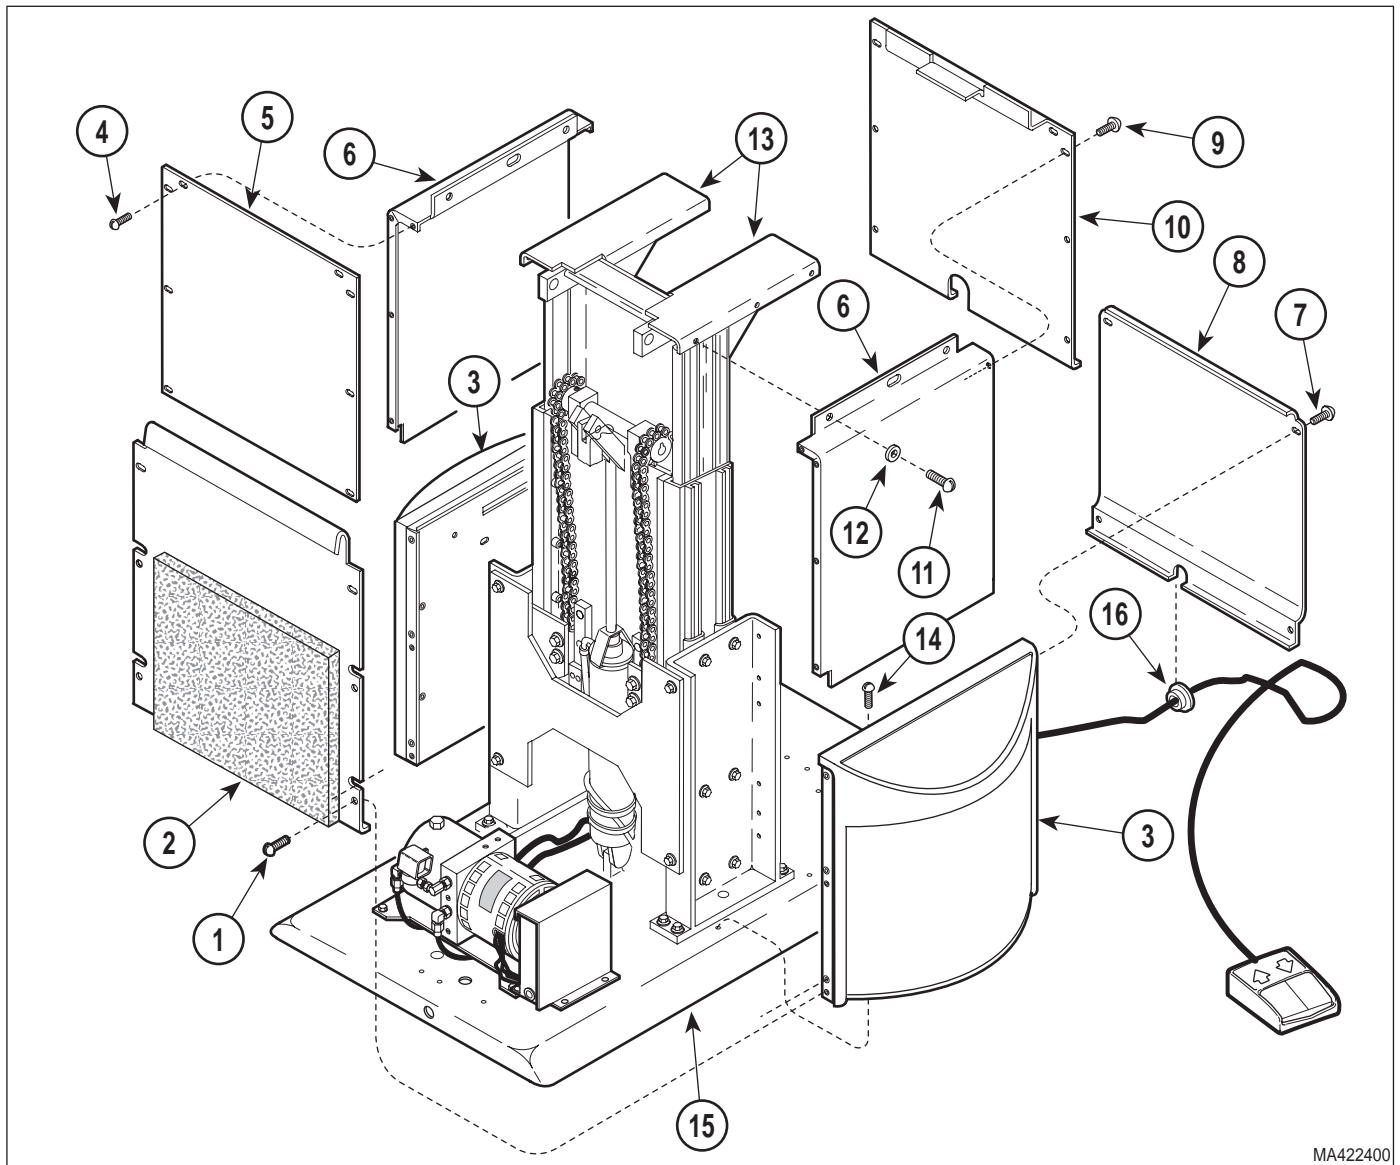

Figure 4-29. Shrouds Removal / Installation
- (1) If possible, raise TABLE UP function all the way up.
- (2) Move the back and seat sections of the table top to a horizontal position.
- (3) Unplug power cord from wall outlet.
- (4) Remove motor cover assembly (Refer to para 4.2).
- (5) Remove four screws (1, Figure 4-29) and back outer shroud (2) from left and right hand outer shrouds (3).
- (6) Remove eight screws (4) and back inner shroud (5) from left and right hand inner shrouds (6).
- (7) Remove four screws (7) and front outer shroud (8) from left and right hand outer shrouds (3).
- (8) Remove eight screws (9) and front inner shroud (10) from left and right hand inner shrouds (6).
- (9) Remove six screws (11), washers (12), and left and right hand inner shrouds (6) from base slide assembly (13).
- (10) Remove six screws (14) and partially separate left and right hand outer shrouds (3) from base weldment (15).
- (7) Raise TABLE UP function until base slide assembly (7) is aligned with seat weldment (20). Secure base slide assembly to seat weldment with two tilt pivot pins (6).
- (8) Secure tilt pivot pins (6) in place by tightening four setscrews (5).
- (9) Install base of tilt cylinder (3) on bracket (4) and secure with clevis pin (2) and two E-rings (1).
- (10) Remove supports (A) from under head section (C) and seat section (B) of table top.
- (11) If necessary, adjust base down limit switch (Refer to para 4.22).
- (12) Install left and right hand outer shrouds (3, Figure 4-29) on base weldment (15) and secure with six screws (14).
- (13) Install left and right hand inner shrouds (6) on base slide assembly (13) and secure with six washers (12) and screws (11).
- (14) Install front inner shroud (10) on left and right hand inner shrouds (6) and secure with eight screws (9).
- (15) Install front outer shroud (8) on left and right hand outer shrouds (3) and secure with four screws (7).
- (16) Install back inner shroud (5) on left and right hand inner shrouds (6) and secure with eight screws (4).
- (17) Install back outer shroud (2) on left and right hand outer shrouds (3) and secure with four screws (1).
- (18) Make sure strain relief bushing (16) is installed on front outer shroud (8).
- (19) Install motor cover assembly (Refer to para 4.2).
- (20) Plug power cord into wall outlet.